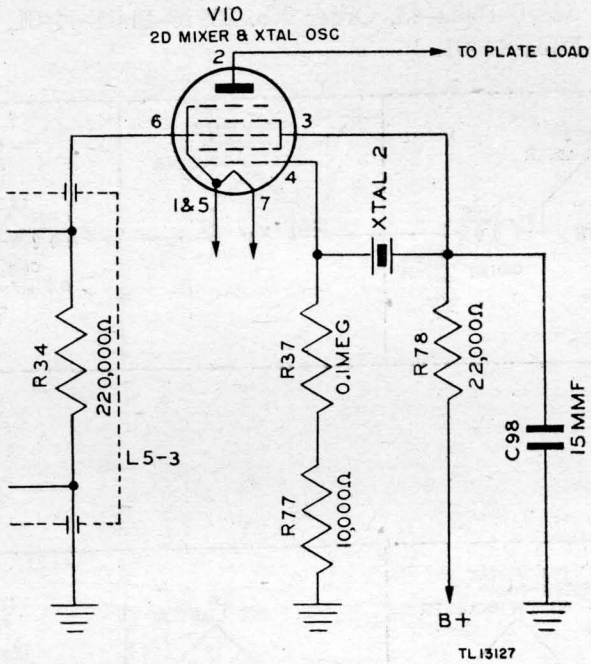

Figure 62. Radio Receiver and Transmitter BC-1000-A, second mixer and crystal-oscillator circuit change.
d. CAPACITOR C98. Capacitor C98 is connected from the anode grid, pin No. 3, of the second mixer and crystal-oscillator tube V10 to ground (fig. 62) in all sets on Order No. 15025-Phila-43 from Serial No. 2601 through 8824, approximately. It is omitted from all other sets which have Serial Nos. below 2601 and above 8824, as well as all sets on Order Nos. 32870-Phila-43, 10185-Phila-44-01, and 23916-Phila-44-01.